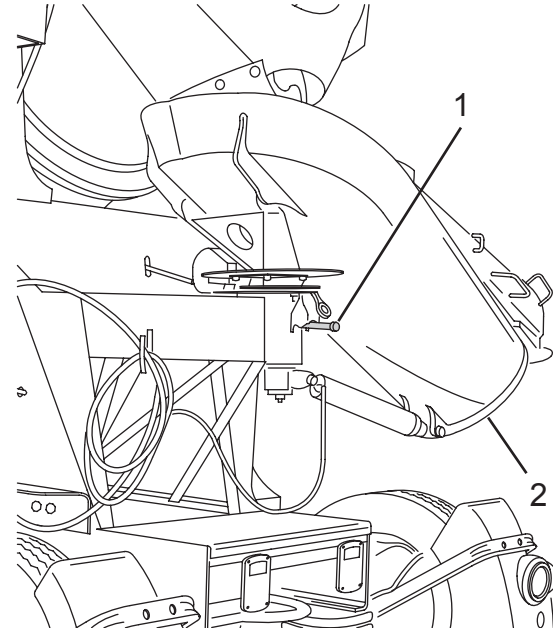

Figure 57
2. While holding the chute, pull down on the lever (Figure 57, Item 1) and move it to the right or left until the lever is seated in one of the lock positions.
3. Move the main chute (Figure 57, Item 2) to the desired position, and while holding the chute, move the lever to the center. Make sure the lever pin is fully seated into one of the holes in the chute plate before releasing the chute. Move the main chute from side to side as needed to align the pin and hole.